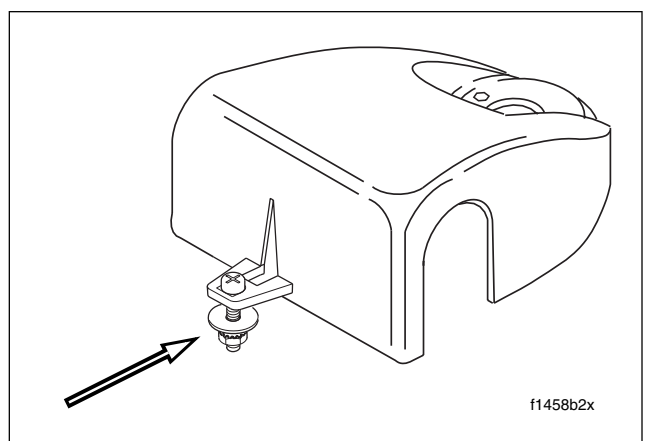

Figure 2-185. Handlebar Clamp Shroud and Screw Assembly
11. Raise the handlebar clamp shroud, and after separating the halves of the headlamp nacelle slightly, slide the shroud forward running the shaft of the Phillips screw down the gap. See Figure 2-185.
3. If disassembled, install Phillips screw, flat washer and Keps nut on the handlebar clamp shroud as shown in Figure 2-185.